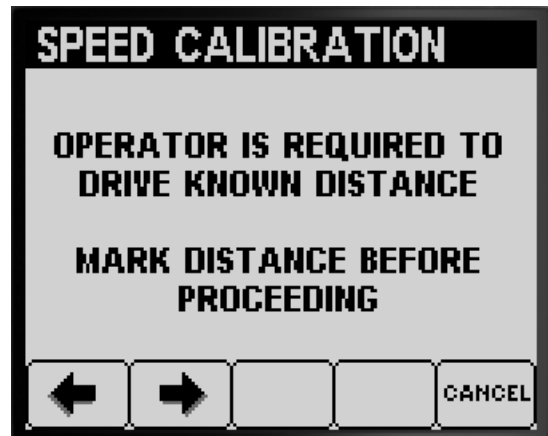

Figure 64
6. Using a measuring wheel, mark off a 45 to 152 m (150 to 500 ft) distance; record the distance that you measured below (Figure 64).
8. Press button 2 to move the next step (Figure 64).